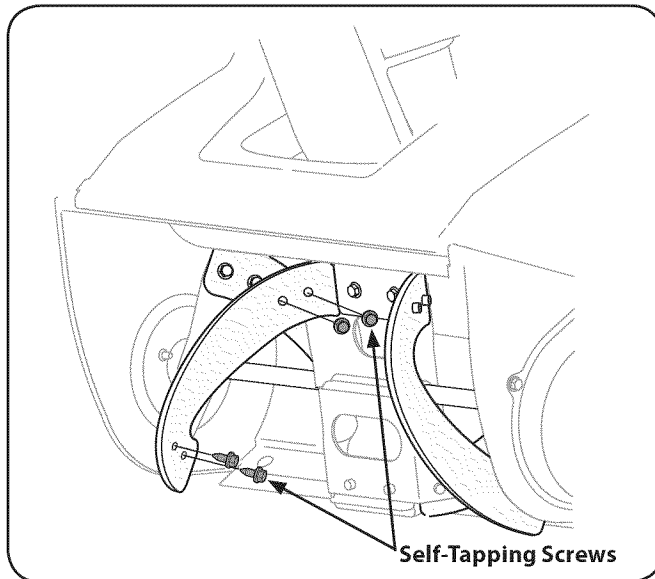

Figure 7-3
3. Remove the oil drain plug, Figure 7-3.
1. Remove the existing rubber paddles by un-threading the self-tapping screws which secure them to the auger. See Fig. 7-3.